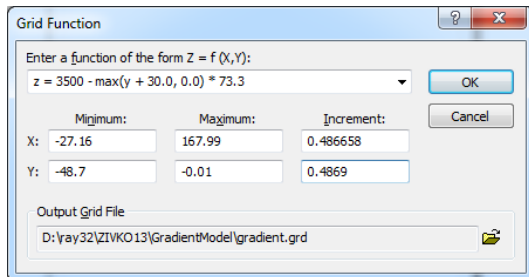

Fig. 12 : Surfer *Grid|Function...* settings
- select *File|New|Plot* in Surfer. Select *Grid|Function...* and edit as Fig. 12. Click *button OK*.